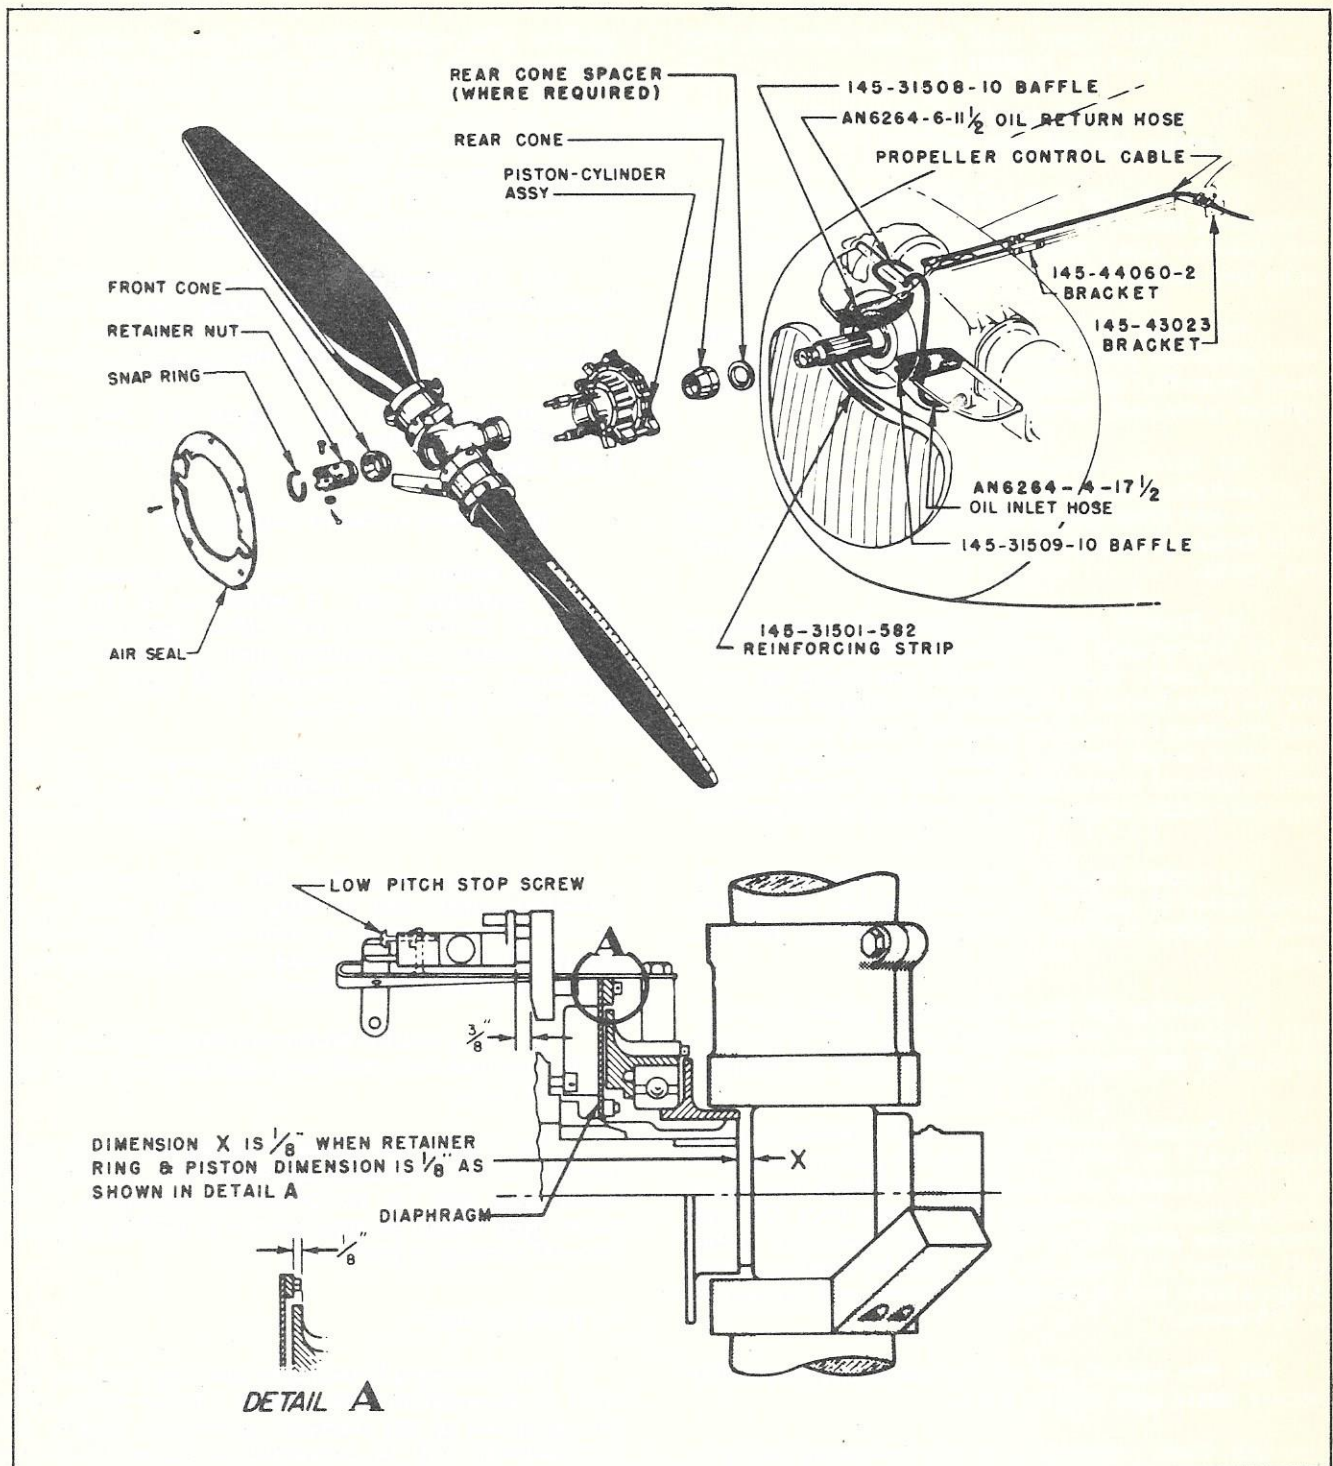

Figure 2 - HC12X20-7B Propeller Installation
(1) Use nuts, bolts, and washers removed from forward bracket, part No. 145-43023, to install bracket, part No. 145-44060-2, on right side of engine. (See figure 2.)
(7) Check positioning of element piston to ascertain that clearance is available to allow a 3/16 inch deflection of the diaphragm to either side of neutral.
(8) Connect propeller push-pull control to valve lever A-117 by first positioning the piston front face 1/8 inch forward of forward face of diaphragm outer bolting ring. Then position servo valve body 3/8 inch from valve plate (figure 2) and pull propeller push-pull control 1/8 inch out from full forward position. Align clevis end of propeller control and connect to A-117 lever.
(9) Run engine and set low pitch stop to provide proper static rpm (1975 - 2025).
(10) Upon completion of the preceding installation, make an operational check of the jack plate clearance. In the full forward position of the diaphragm, (maximum rpm with engine running), there must be a minimum of 1/8-inch clearance between the jack plate collar and propeller hub. Clearance must be observed from the side of the aircraft while the engine is running. It is important that this jack plate to hub clearance be maintained to preclude any possibility of overloading engine thrust bearing with propeller.
(11) If the foregoing instructions are fully complied with, maximum ground static rpm will be approx-